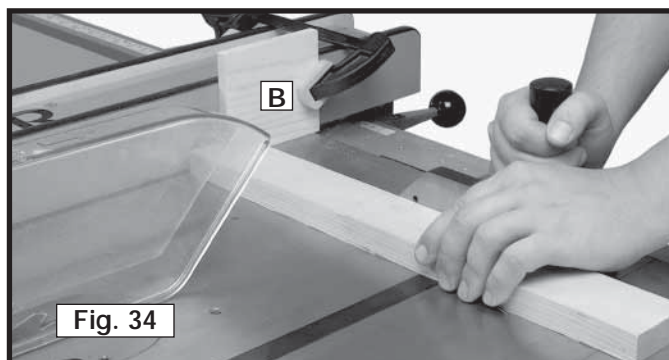

Fig. 34
⚠ CAUTION When using the block (B) Fig. 34 as a cut-off gauge, position the rear end of the block so that the workpiece clears the block before it enters the blade.
When cross-cutting a number of pieces to the same length, clamp a block of wood (B) to the fence and use it as a cut-off gauge (Fig. 34). Always position this block of wood in front of the saw blade. Once you have determined the cut-off length, secure the fence and use the miter gauge to feed the workpiece into the blade. This block of wood allows the cut-off piece to move without binding, lessening the possibility of kickback and injury.